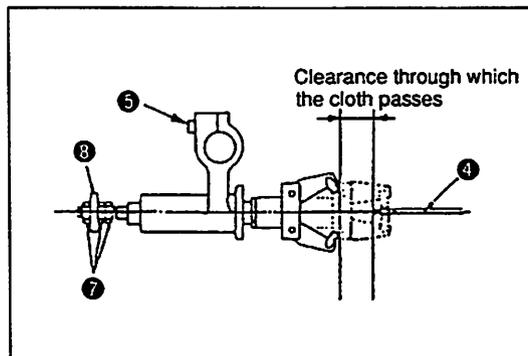
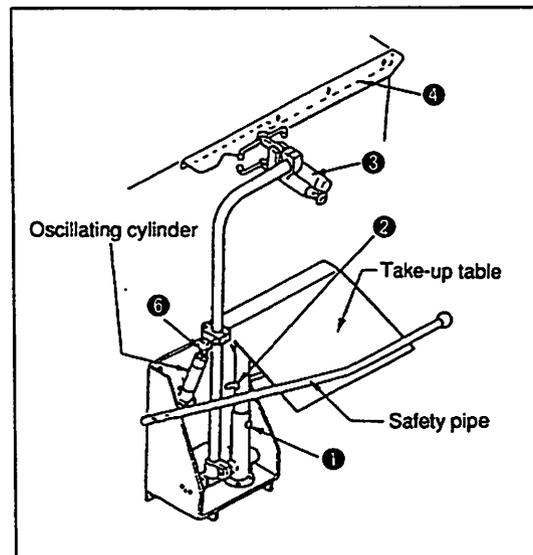

Fig. 8
Fig. 9
- ① The corner knife comes down, then the workpiece grasping cylinder actuates.
- ② The workpiece grasping cylinder moves to its front end and grasps a workpiece at that position.
- ③ The oscillating cylinder actuates to place the cloth on the take-up table.
- ④ The workpiece grasping hand is released, and the oscillating cylinder returns to its home position.
Adjust the height of the take-up table using set bolt ① . Adjust the inclination of the take-up table using set bolt ② . (Fig. 9) Adjust the height and inclination of the take-up table according to the size of the workpiece to be stacked.
Adjust the position of the grasping hand using set bolt ⑤ so that it clamps sub-table ④ at the center when the workpiece grasping cylinder ③ reaches the front end of its stroke. Loosen locknut ⑥ and adjust the cylinder rod to provide an adequate clearance between the top end of the workpiece grasping hand and the end face of sub-table ④ to permit the workpiece to freely pass through when the workpiece grasping cylinder stays in its resting position. (Fig. 8, Fig. 9)
The grasping hand must have a suitable force to grasp a workpiece and take it out from the sub-table when workpiece grasping cylinder ③ reaches the front end of its stroke. Loosen locknuts ⑦ , and adjust the grasping force using chuck seat ⑧ . (Fig. 8, Fig. 9)